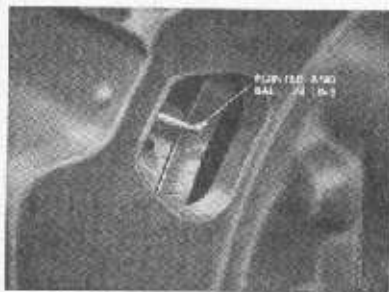

Fig. 44. Ignition timing marks.
- (e) If the timing is correct, the reflection of light from the steel ball will occur exactly under the pointer. (See Fig. 44.) Any error in the setting will be shown by the ball appearing to rest at one side or the other of the pointer. To correct the setting, slacken the distributor clamp bolt and turn the distributor body slightly as required. Rotate the distributor in a clockwise direction if the ball has passed the pointer at the time of